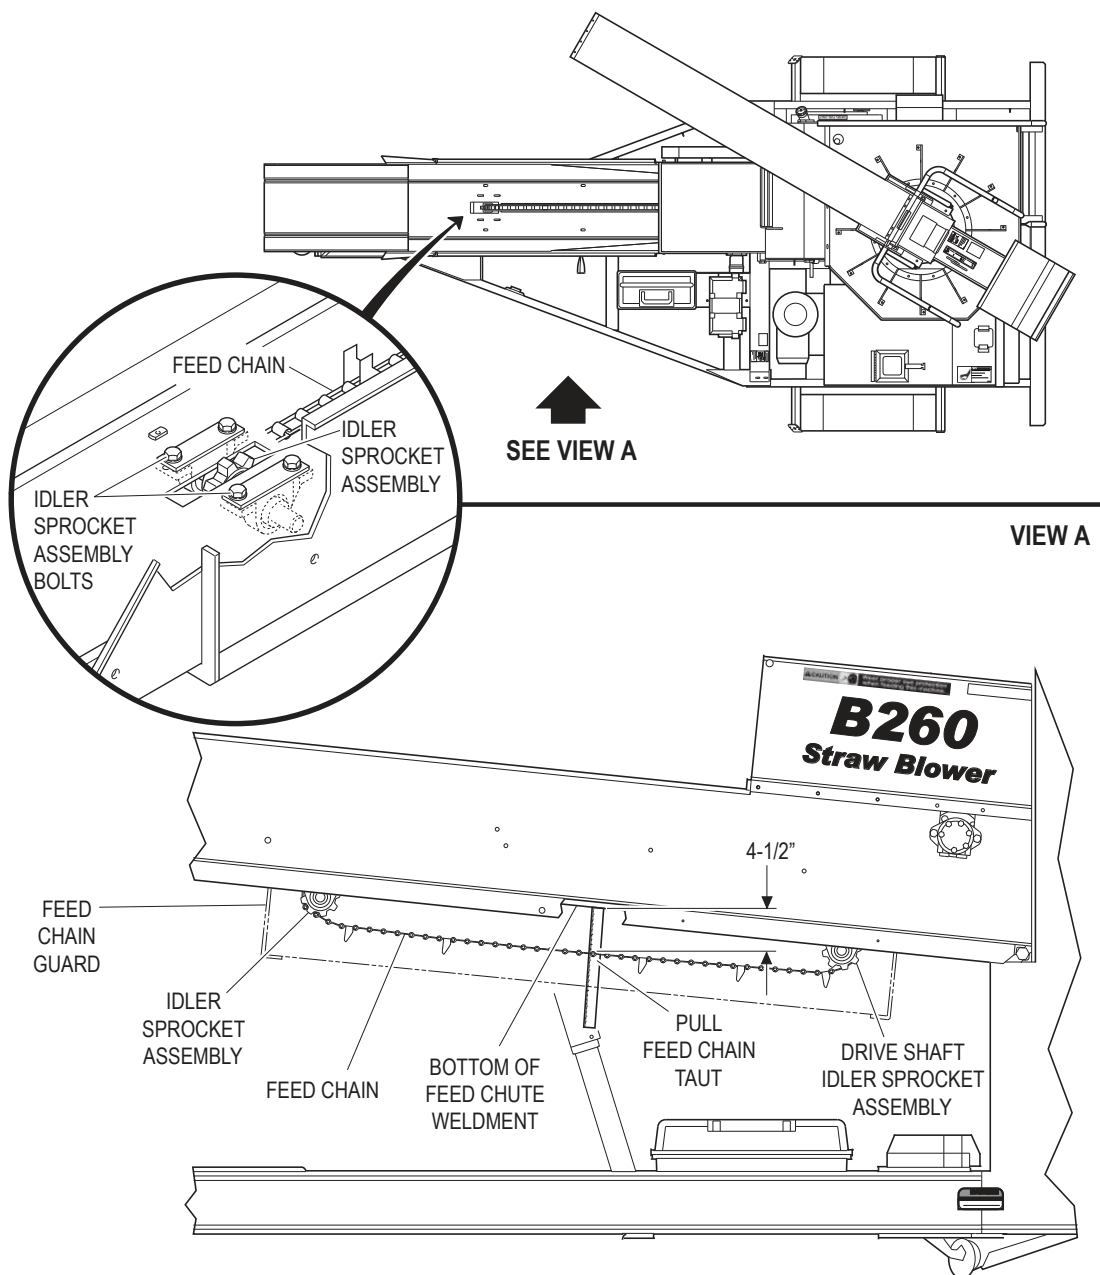

FIGURE 9 - ADJUSTING THE FEED CHAIN
1. About halfway between the Idler Sprocket Assembly and the Drive Shaft Idler Assembly, pull the Feed Chain taut away from the bottom of the Feed Chute Weldment. At the point where you have pulled the Feed Chain away measure the distance between the top of the Feed Chain and the bottom of the Feed Chute Weldment. This dimension should be 4-1/2". See Figure 9.